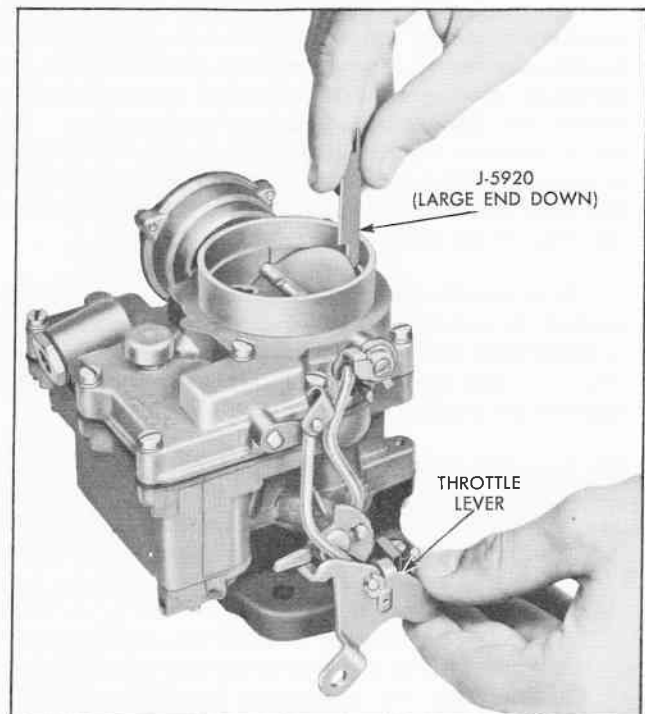

Fig. 4 Checking Unloader Adjustment
2. On page 6B-27, step number 2 under Unloader Adjustment, use large end of J-5920 as shown in Fig. 4 instead of a #20 drill.